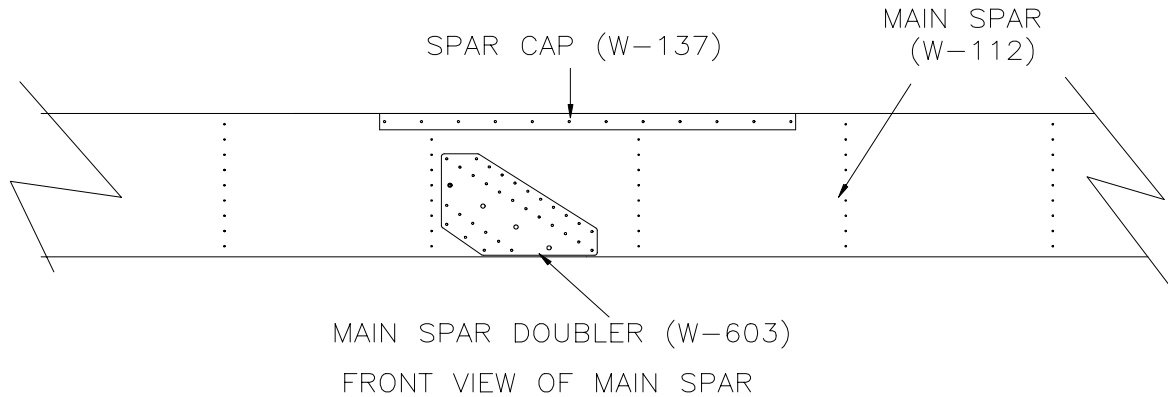

Figure 8.2.2
2) Position and cleco the Main Spar Doubler (W-603) on the front side of the Spar using the pre-punched hole in the Main Spar Doubler and the hole in the spar. Making sure the bottom edge of the Main Spar Doubler is parallel to the bottom web of the Main Spar. Drill the bottom hole to #11, cleco and drill the other two holes to #11. See Figure 8.2.2.